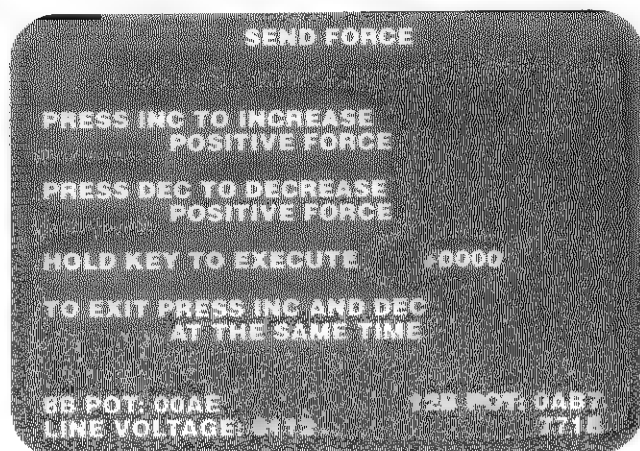

Figure 2-22 Send Force Screen
- Send Force* sends a steady force to the motor amplifier PCB. See Figure 2-22.
- Sine Wave* sends a sine wave force to the motor amplifier PCB. This screen is similar to Figure 2-22.
- Square Wave* sends a square wave force to the motor amplifier PCB. This screen is similar to Figure 2-22.
- Triangle Wave* sends a triangle wave force to the motor amplifier PCB. This screen is similar to Figure 2-22.